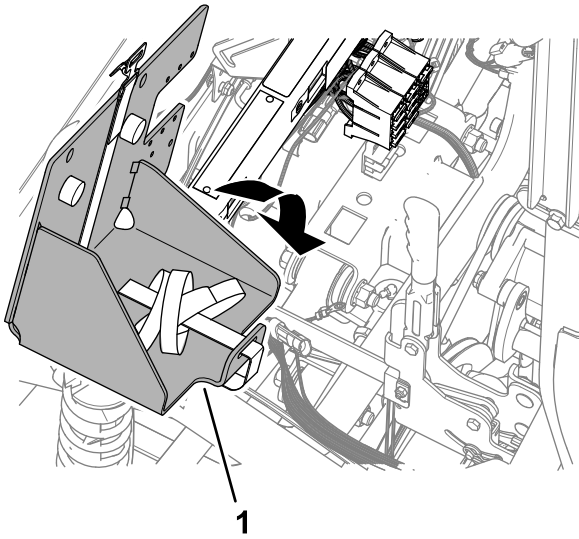

Figure 217
1. Align the new battery bracket to the shock-support tube of the machine and the fuse blocks (Figure 217).